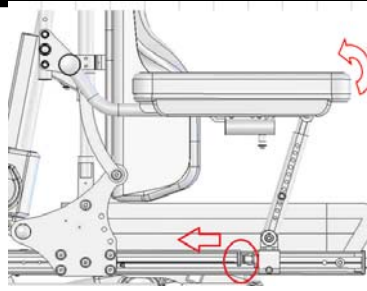

Figure 5.3.7-2
5.3.7.3 When putting the armrest back to the working position, be sure part A is properly inserted into part B. Turn the lock pin in 90 degree and make sure the armrest is properly installed. (Figure 5.3.7-3)